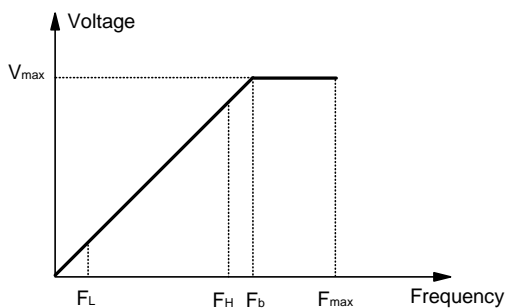

Figure 6-3 Frequency limits definition
The maximum output frequency is the maximum frequency which the inverter is able to output, shown in Figure 6-3 as  $F_{max}$ .
High frequency limit is the maximum frequency which the user is allowed to set, shown in Figure 6-3 as  $F_H$ .
Low frequency limit is the minimum frequency which the customer is allowed to set, shown in Figure 6-3 as  $F_L$ .
$F_b$  in Figure 6-3 is basic running frequency, which is defined as the lowest output frequency when the inverter outputs the highest voltage in V/F control mode.
4. The interrelation among highest output frequency, high frequency limit and low frequency limit is shown in Figure 6-3. Note their value sequence when setting them.